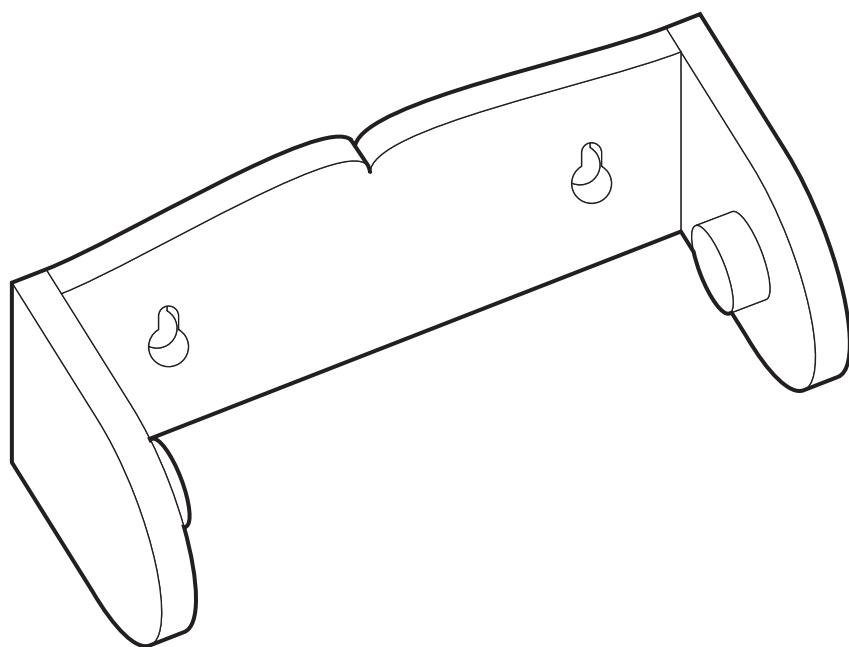

Fig. 2
- 2 Fig. 2 shows a prototype design for a kitchen roll holder.